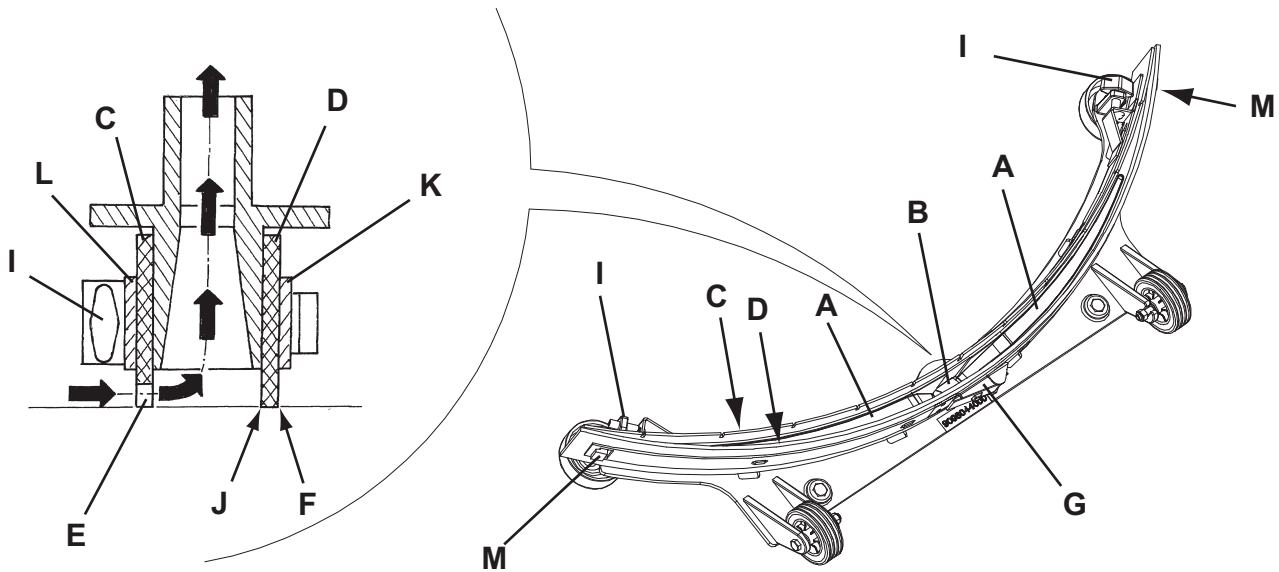

Figure 5
1. Clean the squeegee (Fig. 5) as shown in the previous paragraph.
2. Check that the edge (E, Fig. 5) of the front blade (C) and the edge (F) of the rear blade (D) lay down on the same level, along their length; otherwise adjust their height according to the following procedure:
- Remove the tie rod (G), disengage the retainers (M) and adjust the rear blade (D); then engage the retainers and install the tie rod.
- Loosen the handwheels (I) and adjust the front blade (C); then tighten the handwheels.
3. Check the front blade (C) and rear blade (D) for integrity, cuts and tears; if necessary replace them as shown below. Check that the front corner (J) of the rear blade is not worn; otherwise, overturn the blade to replace the worn corner with an integral one. If the other corners are worn too, replace the blade according to the following procedure:
- Remove the tie rod (G), disengage the fasteners (M) and remove the retaining strip (K), then replace/overturn the rear blade (D). Install the blade in the reverse order of removal.
- Unscrew the handwheels (I) and remove the retaining strip (L), then replace the front blade (C). Install the blade in the reverse order of removal.